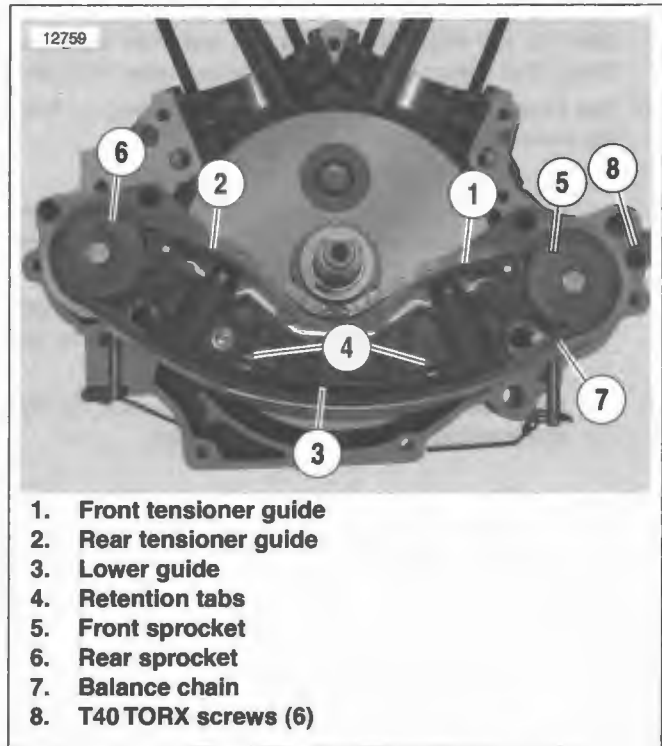

Figure 3-61. Chain Tensioner Guides
- See Figure 3-61. Pry tab on front tensioner guide (1) clear of locking post. Use a small screwdriver to pry front chain tensioner guide upward from locking post. Repeat procedure on rear chain tensioner guide (2).
- Pry lower chain tensioner guide (3) away from chain guide bracket assembly. Note the two retention tabs (4) on the lower chain tensioner guide which must be freed.
- See Figure 3-61. Pry front (5) and rear (6) sprockets away from chain guide bracket assembly to release balance chain (7). Remove spacers from front and rear balance shafts.
- Remove six T40 TORX screws (8) from balance shaft housing to free chain guide bracket assembly.